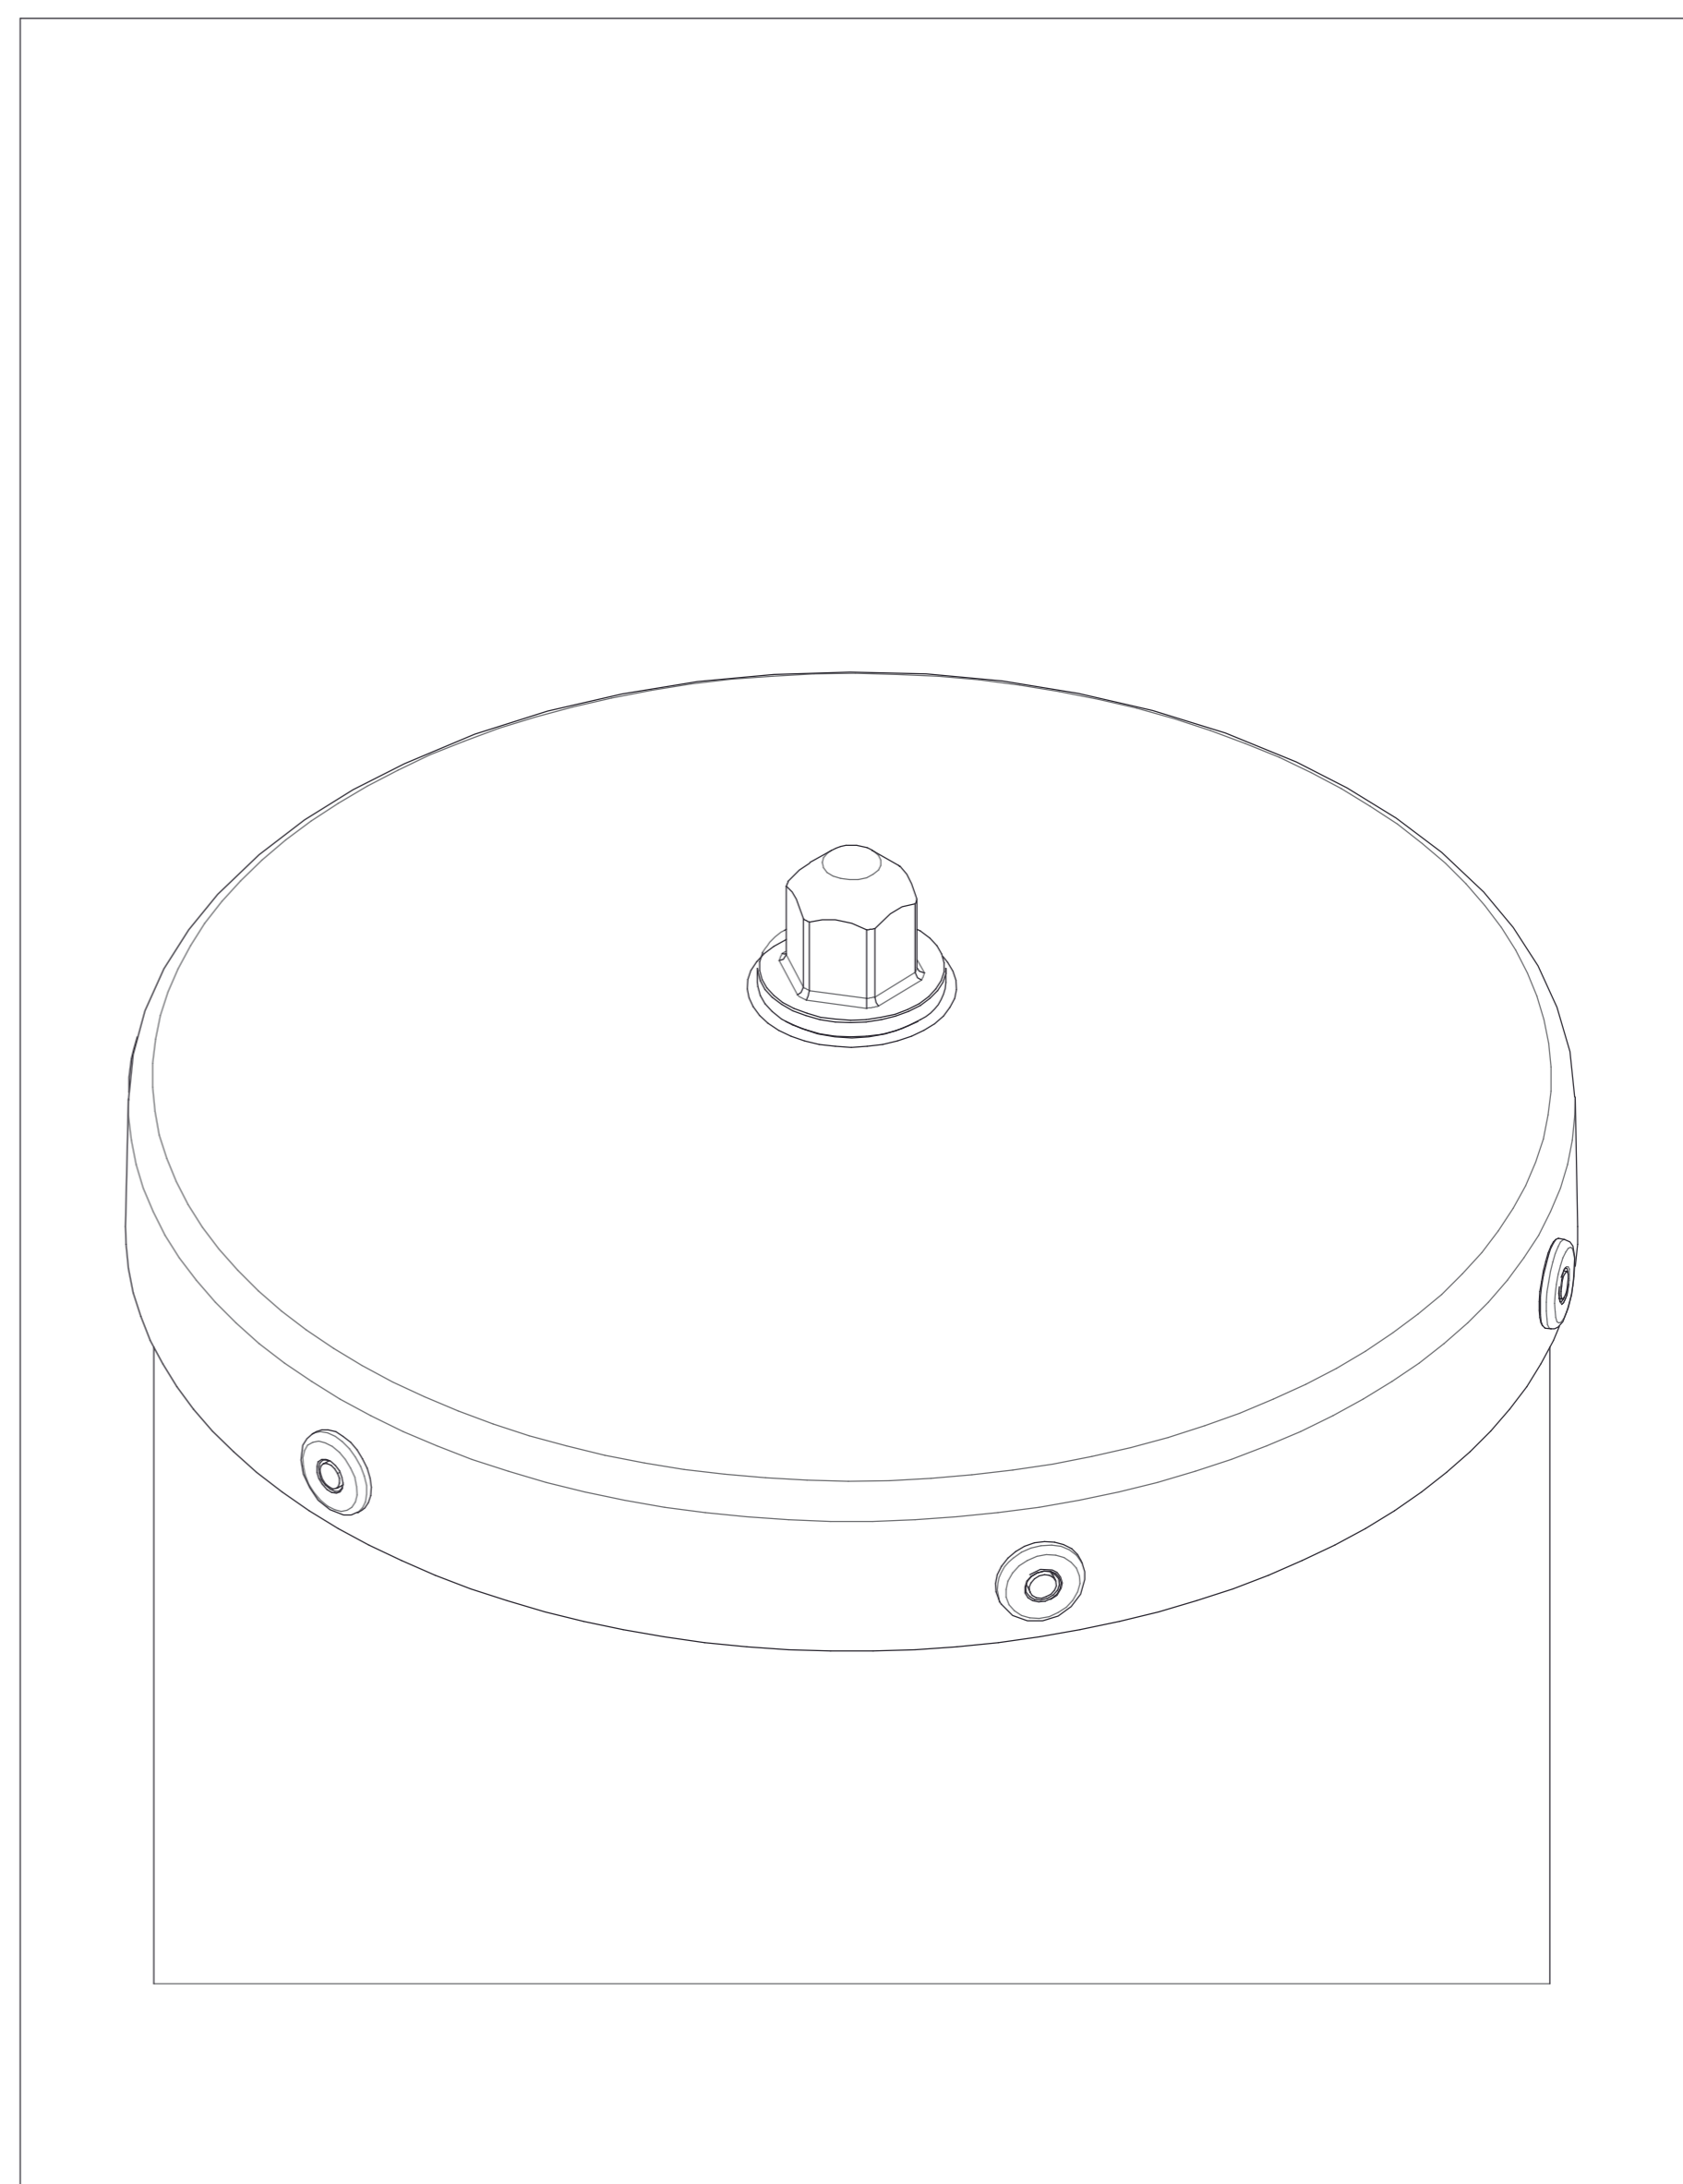

Figure 10
**Check the nut, top cap is well installed. (Figure 10)**